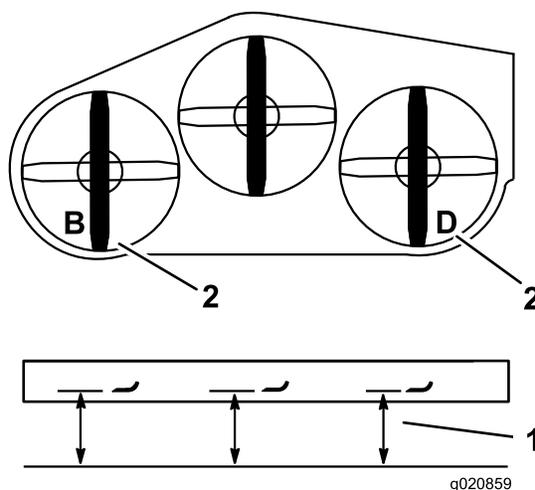

Figure 85
2. Measure the left blade at the **B** location, from a level surface to the cutting edge of the blade tip and record this measurement (Figure 85).
3. Measure the right blade at the **D** location, from a level surface to the cutting edge of the blade tip and record this measurement (Figure 85).
4. The measurement at position **B** needs to be within 3 mm (1/8 inch) of the measurement at position **D**. (Figure 85). If it is not correct, proceed to the following steps.